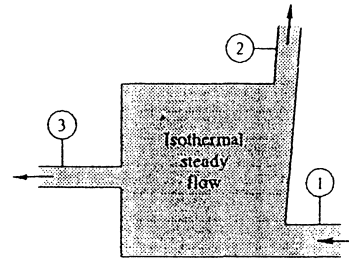

Fig. P3.126
**3.126** Given is steady isothermal flow of water at 20°C through the device in Fig. P3.126. Heat-transfer, gravity, and temperature effects are negligible. Known data are  $D_1 = 9$  cm,  $Q_1 = 220$  m3/h,  $p_1 = 150$  kPa,  $D_2 = 7$  cm,  $Q_2 = 100$  m3/h,  $p_2 = 225$  kPa,  $D_3 = 4$  cm, and  $p_3 = 265$  kPa. Compute the rate of shaft work done for this device and its direction.